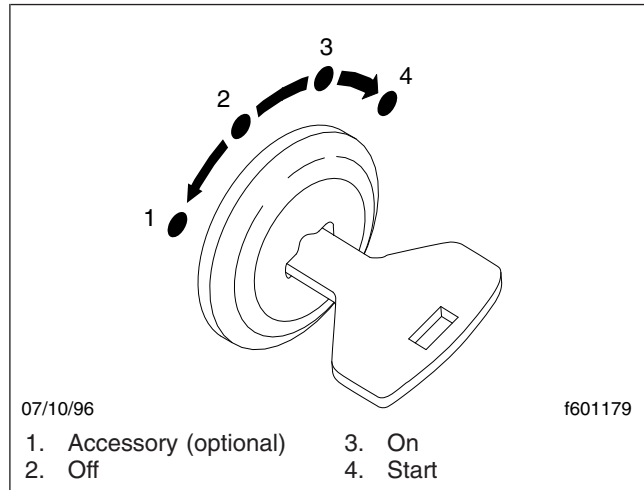
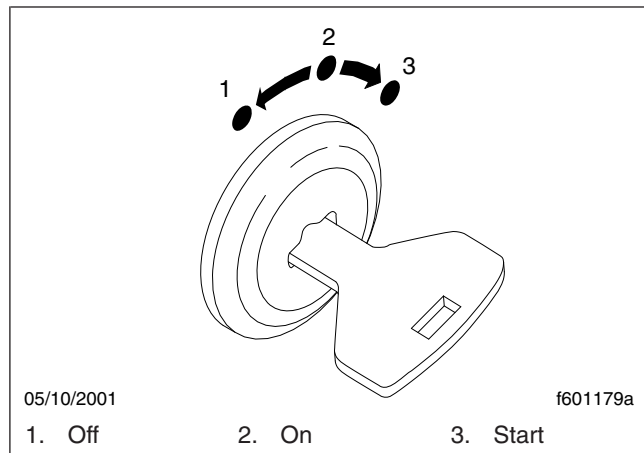

Fig. 15.1, Four-Position Ignition Switch
Fig. 15.2, Three-Position Ignition Switch
2. Turn the ignition switch to the ON position. See **Fig. 15.1** for the four-position ignition switch and **Fig. 15.2** for the three-position ignition switch.
3. Make sure that the transmission shift control is in Neutral (N) or Park (P), and that the park brake is set.